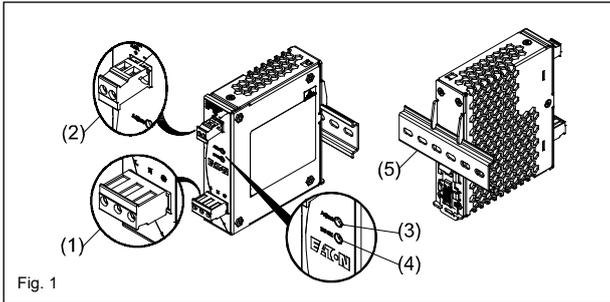
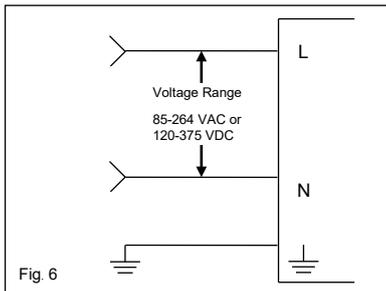

Fig. 1
Fig. 6
### 2. Device description (Fig. 1)
### 5.1. Input connection (Fig. 1 (1), Fig. 6)
For AC input connections, use L, N and PE connections of input terminal connector (see Fig. 1 (1)) to establish the 100-240 VAC connection.
### 5.2. Output connection (Fig. 1 (2))
Use the "+" and "-" screw connections to establish the 24 VDC connection. The output provides 24 VDC. The output voltage can be adjusted from 24 to 28 VDC on the potentiometer (see Fig. 1 (3)). The green LED DC OK displays correct function of the output (Fig. 1 (4)). The device has a short circuit and overload protection and an overvoltage protection limited to 35 VDC.